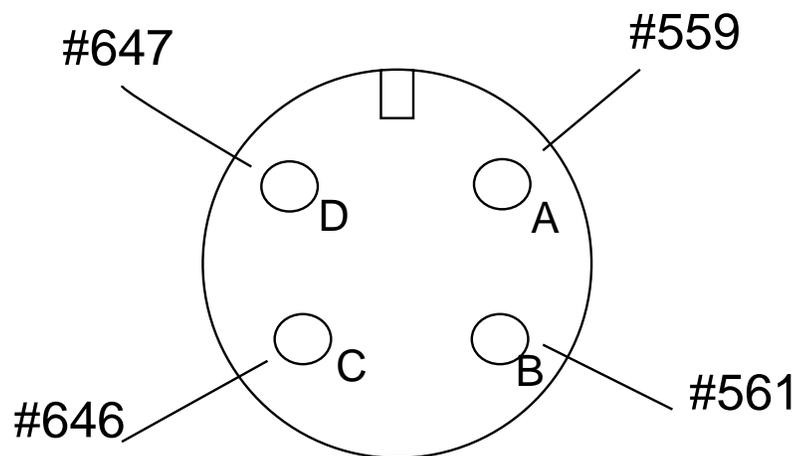

FIGURE B.6 Travel Motor Connector Pins (Older Units with Powered Field.)
3. \*Apply field voltage first (pins C and D) to the motor. See Figure B.6 and Table B.4
1. \*Carefully connect the 110VDC supply (SUPPLY TURNED OFF) to pins C and D on the travel motor connector. See Figure B.6